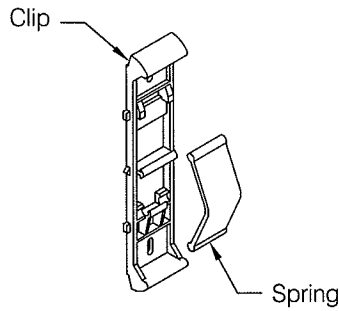
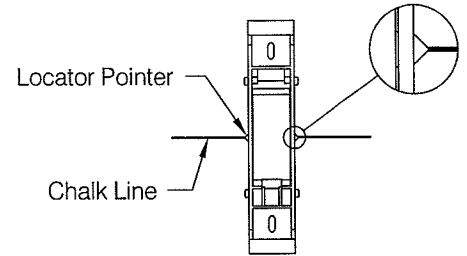

fig 2
fig 3
Step 2: Quik Clip retainer consists of a base or "Clip" and an impact cushion or "Spring" shipped separately, see **fig 2**. Secure clips to wall by aligning the molded location pointers in the clip with the chalk line, see **fig 3**. While the clip may be installed either end up it is recommended that the spring socket be oriented down, see **fig 8**.